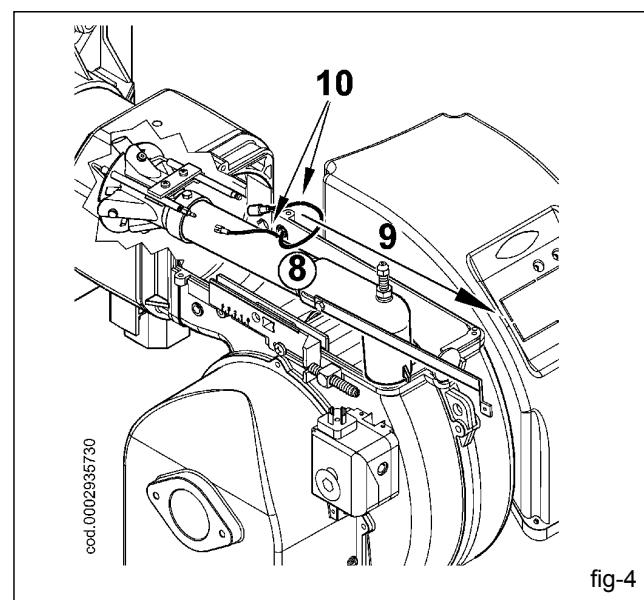

fig. 4
- 4) Completely remove the mixing unit, pulling it out in the direction shown by arrow 9, after pulling the ignition and ionisation cables 10 out of their electrodes (figure 4).